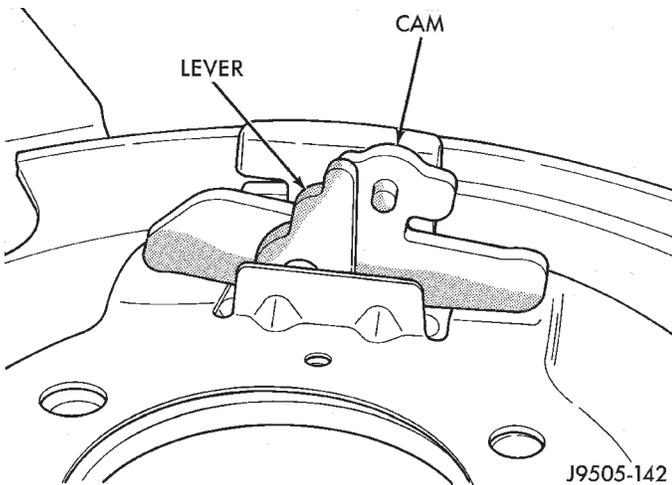

Fig. 52 Cam And Lever
(1) Lubricate replacement lever with silicone grease. Then insert lever part way through boot. Be sure lever notch is facing rearward.
(2) Engage cam in lever. Then simultaneously slide cam into place on splash shield and work lever through boot (Fig. 52).
(3) Install parking brake shoes.
(4) Verify correct installation of cam and lever by pulling lever toward front of vehicle. Cam should expand both brake shoes as lever is pulled forward.
(5) Install rotor and adjust parking brake shoes.
(6) Connect rear cable to lever. Be sure cable eyelet is securely attached in lever notch.
(7) Install brake caliper and wheel and tire assembly.
(8) Lower vehicle and verify correct parking brake operation.